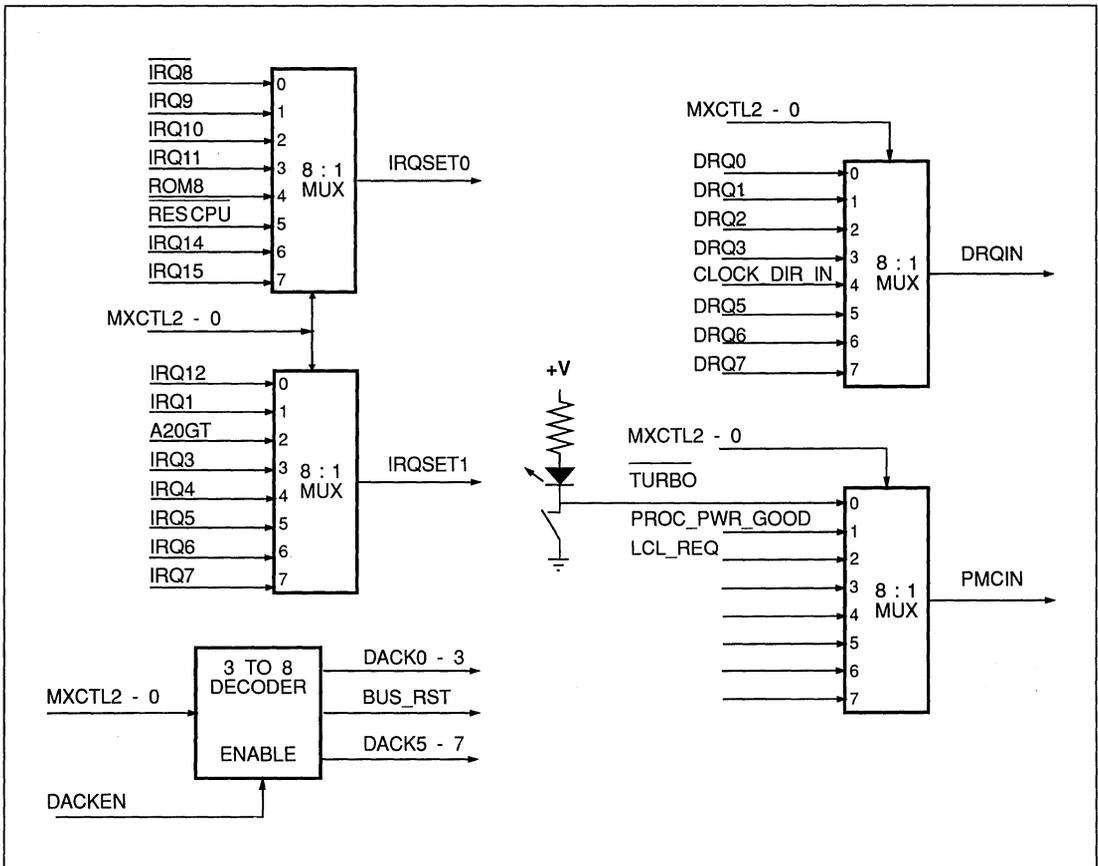

FIGURE 5-1. MXCTL2-0 MULTIPLEXING
* Based upon the value of CLOCK_DIR_IN at power up (refer to Table 5-1, Figure 5-1 and section 5.1.2).
To reduce the number of pins required, the System Controller generates and outputs the MXCTL2-0 and DACKEN signals used by external logic to multiplex the DACKs, DRQs and IRQs down to single inputs. See Figure 5-1.
Immediately following a System Reset ($\overline{\text{RSTIN}}$), DRQIN input 100 is sampled. If low, the processor clock (CPUCLK) pin is an output. If high, the CPUCLK starts as an output but is switched to an input shortly after $\overline{\text{RSTIN}}$ is de-asserted. See Table 5-1 and Figure 5-1. This controls the default value of CLK_SPD in the CPU Clock (CPUCLK) Control Register at Port 1072H. See section 4.2.4.
The Interrupt Requests are multiplexed by the WD76C30. The multiplexing is performed as shown in Table 5-1 and Figure 5-1, and provides the System Controller with the IRQSET1 and IRQSET0 signals.
The power control signals are placed on the PMCIN input pin by way of an eight to one multiplexer, controlled by the MXCTL2-0 signals from the System Controller. In the WD7910, the TURBO signal may be connected directly to PMCIN. In the WD7710LP, the external 8:1 MUX is always used. See Figure 5-1. Bits 14 and 13 of Port 1872H (Section 5.3) control the power down of the processor and peripheral.
When a PMC interrupt occurs, PMC output 7 at Port 7072H is reset, enabling the power up sequence. A CPURES and BUS_RST (see Figure 5-1) are asserted until the PMCIN 01 PPG at Port 8872H input is high. The tristated outputs are restored and the inputs are no longer masked.